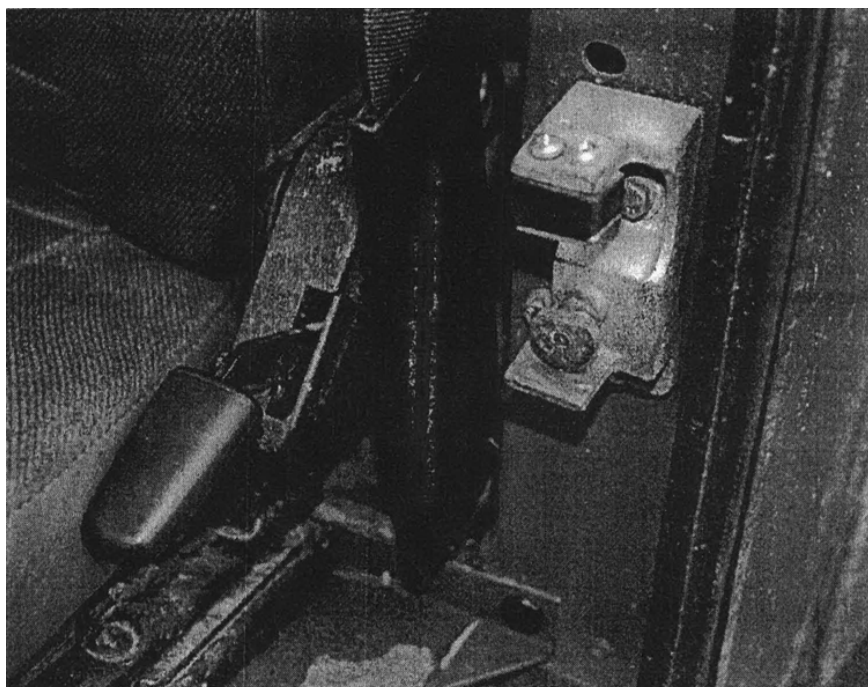

Fig 1
9.3 Place the two sections of the seat belt protector on either side of the seat belt webbing; ensuring the holes in the protector sleeve are at the bottom and face toward the rear of the vehicle, snap the two halves together and slide to bottom of seat belt. As shown in Fig 1.